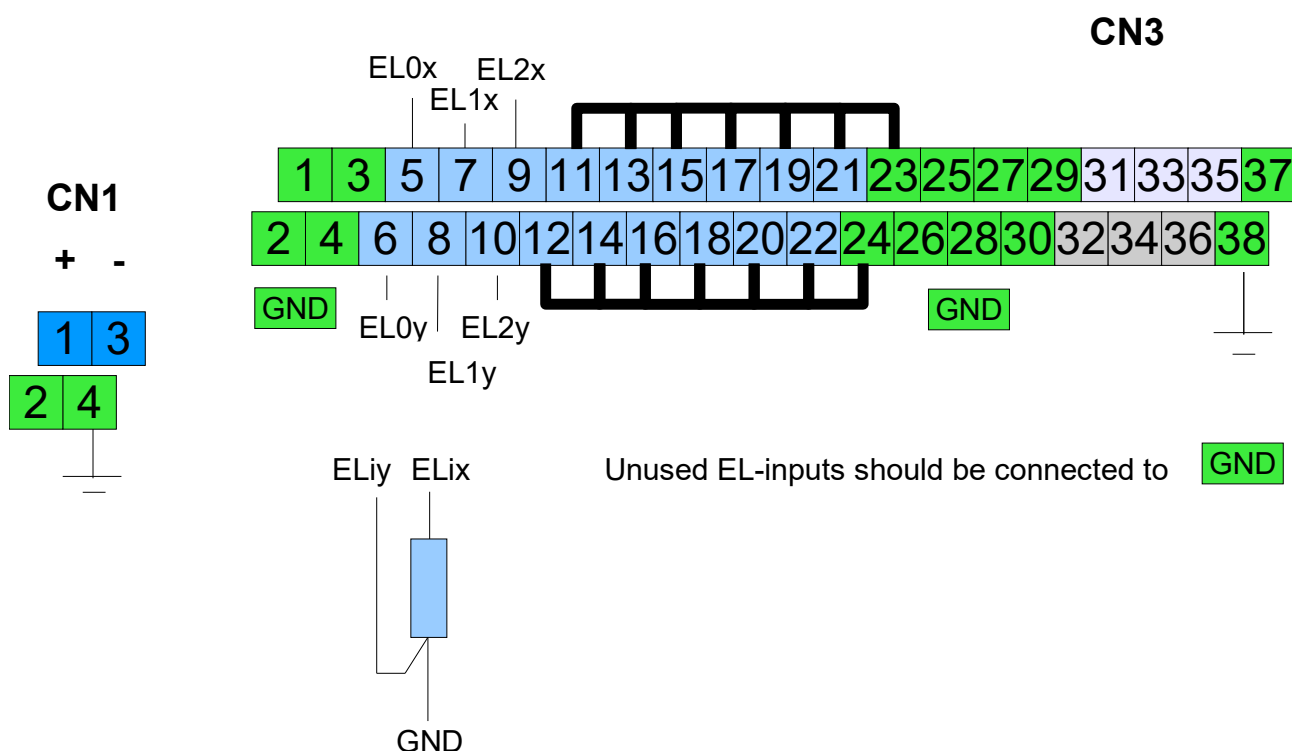

Figure 3: Connection of RTD probes
- Connect RTD probes according to Figure 3: Connection of RTD probes and Table 6: RTD probe connections. The X62T-VR allows to connect up to 3 RTDs.